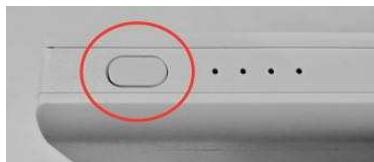

Figure 19.1. The power button on the RAVPower Battery.
Resolution: Press the button on the side of the battery (Figure 19.1).
**Resolution:** Press the button on the side of the battery (Figure 19.1).